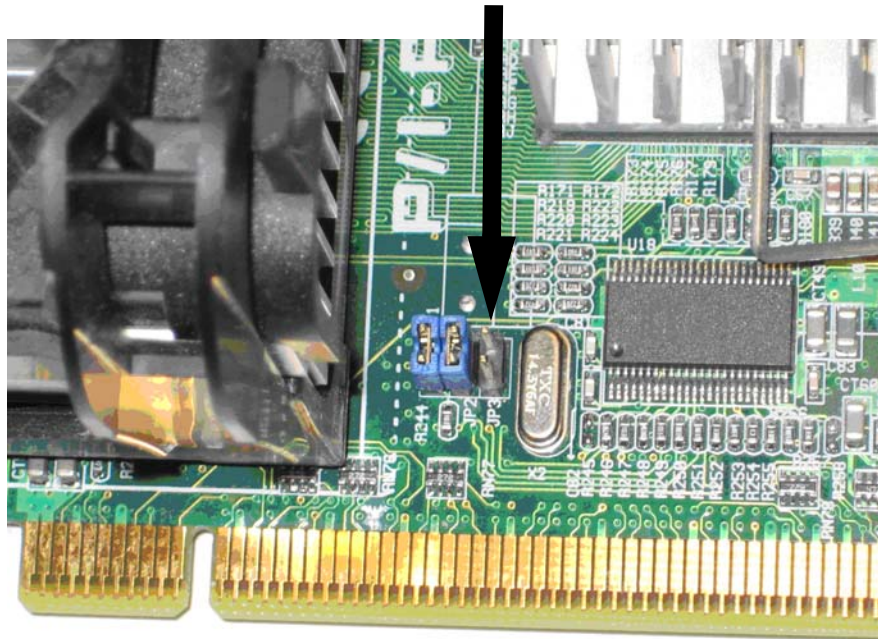

Figure 7-1 Jumper Location of SBC
- e. With the unit powered off, disable the on-board VGA by placing a jumper on J3 of the Single Board Computer (SBC) (see Figure 7-1). Insert the NVIDIA Video-338PCI-DVI (video card in PCI slot 3-3).